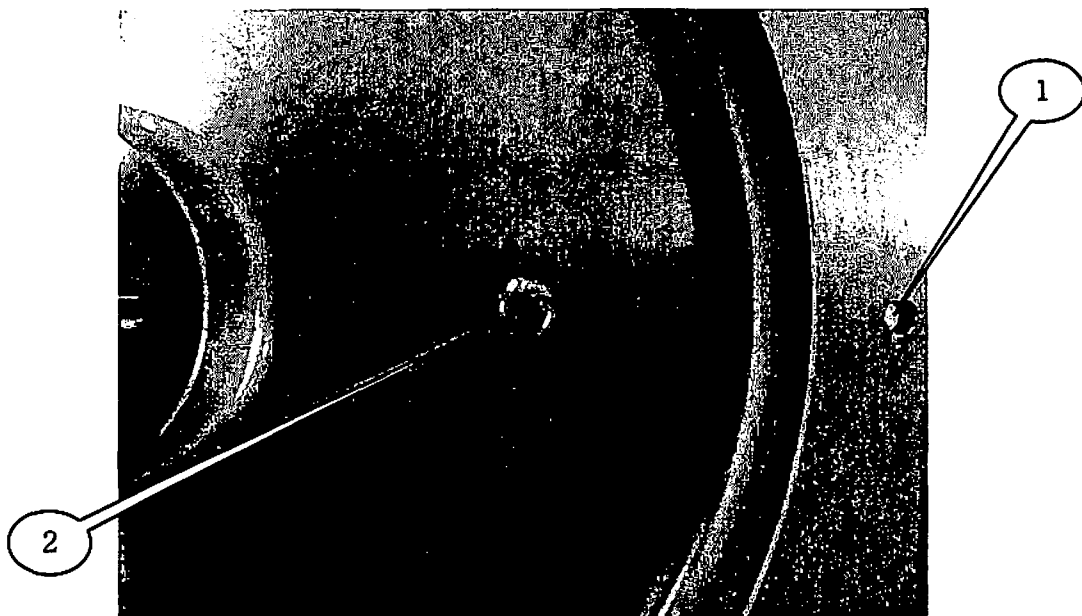

Fig 8-4 Wire Winding
Hang the wire in the front groove on the work roller and then on the rim part of the collection wire reel for two times. The depth of the reel is 38mm. Please wind the wire on the front part of the depth. Then, put the end of the wire through (1) the hole and wind it around (2) truss head screw as shown in Fig 8-4. After fixing wire, please adjust the location of wire from a supply wire reel to a help pulley. (The length from wire reel to a front plate should be 150mm.) **CAUTION**